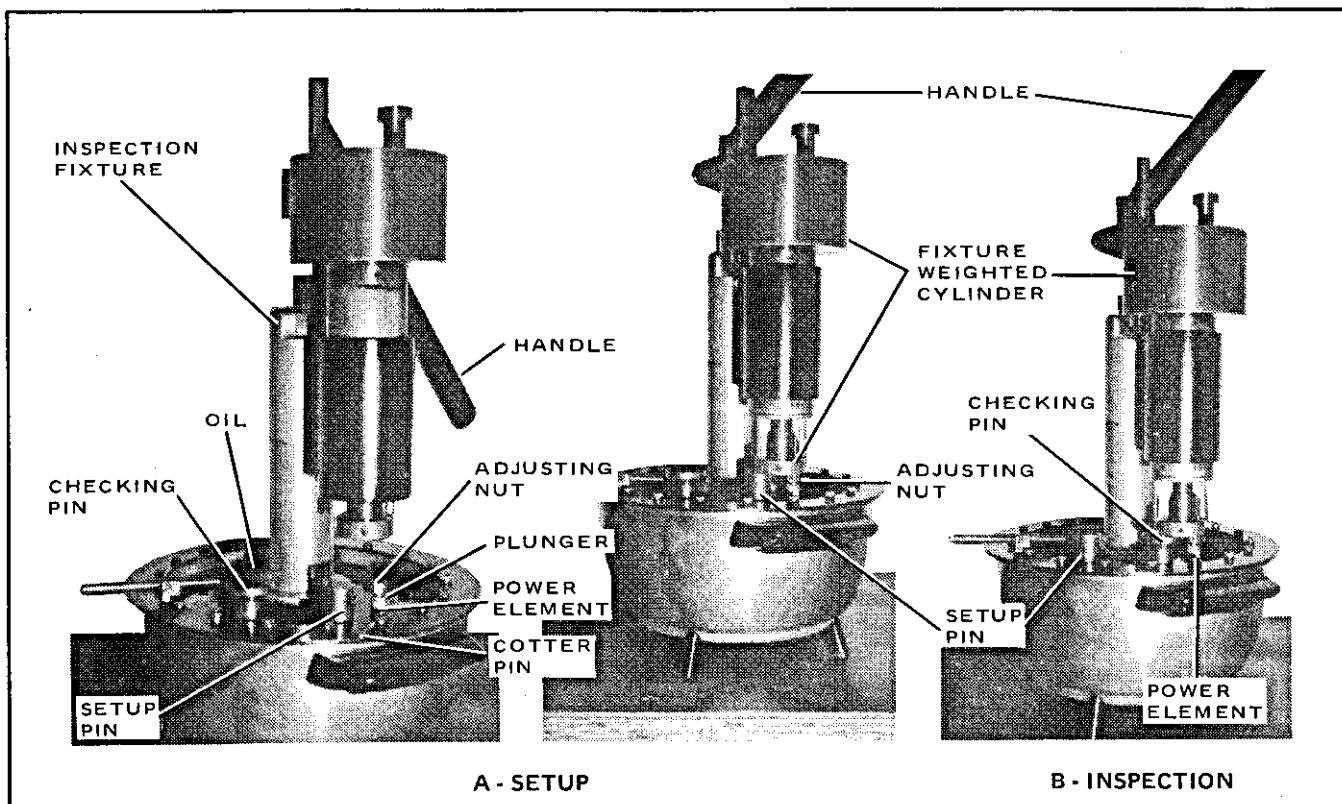

Figure 5-2. Shuttle Power Element Inspection
- a. Use a suitable container (with controlled heating capability) of clean compressor oil with sufficient quantity of oil to immerse the sensing end of the power element in a holding device. Remove cotter pin from adjusting nut and place the power element, with plunger and nut, in holding fixture (sensing end of power element in the oil). See figure 5-2 for a typical setup.